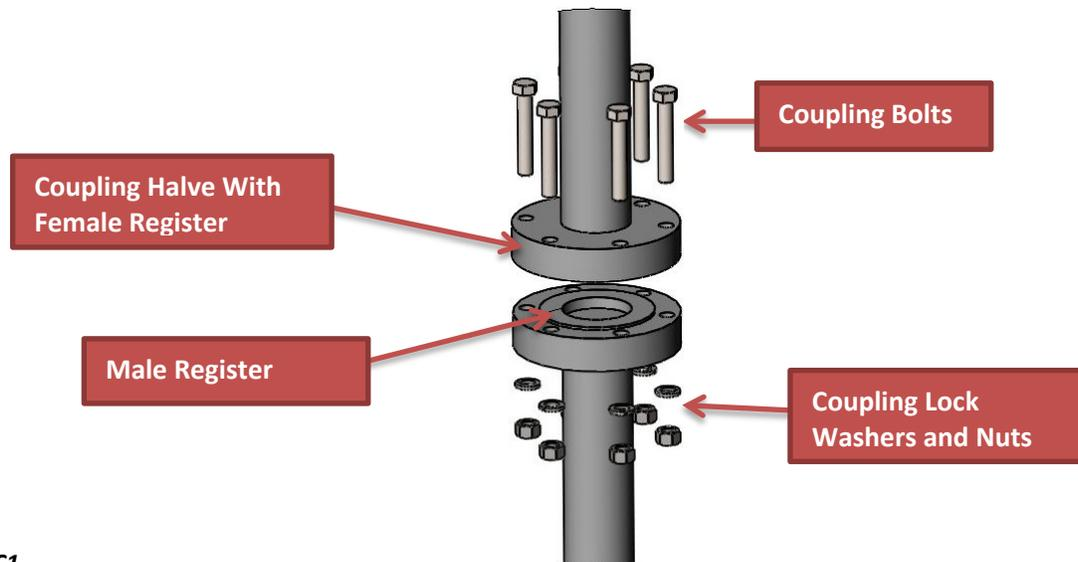

Figure SC1
1. Each shaft coupling connection will have a male and female register (See Figure SC1). Check these registers for dirt, dings and dents that might have accrued during shipment or staging of these components. For proper alignment, it's important these registers have a clean connection.